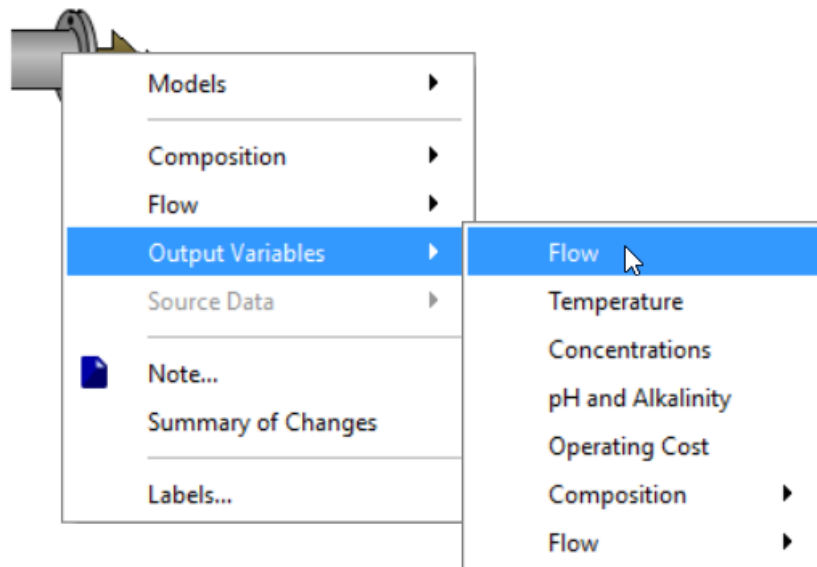

Figure 7-12 – Output Variables in Process Menu
2. Select the *Output Variables* menu as shown in **Figure 7-12**.